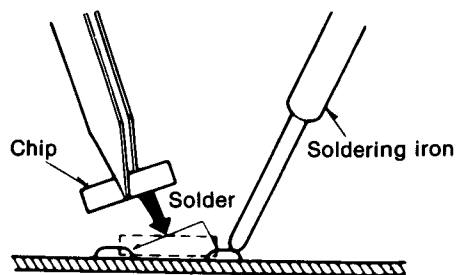

Fig. 2
1. Place solder on the foil where the chip is fitted. Then solder the chip by holding the soldering iron as shown in Fig. 2.